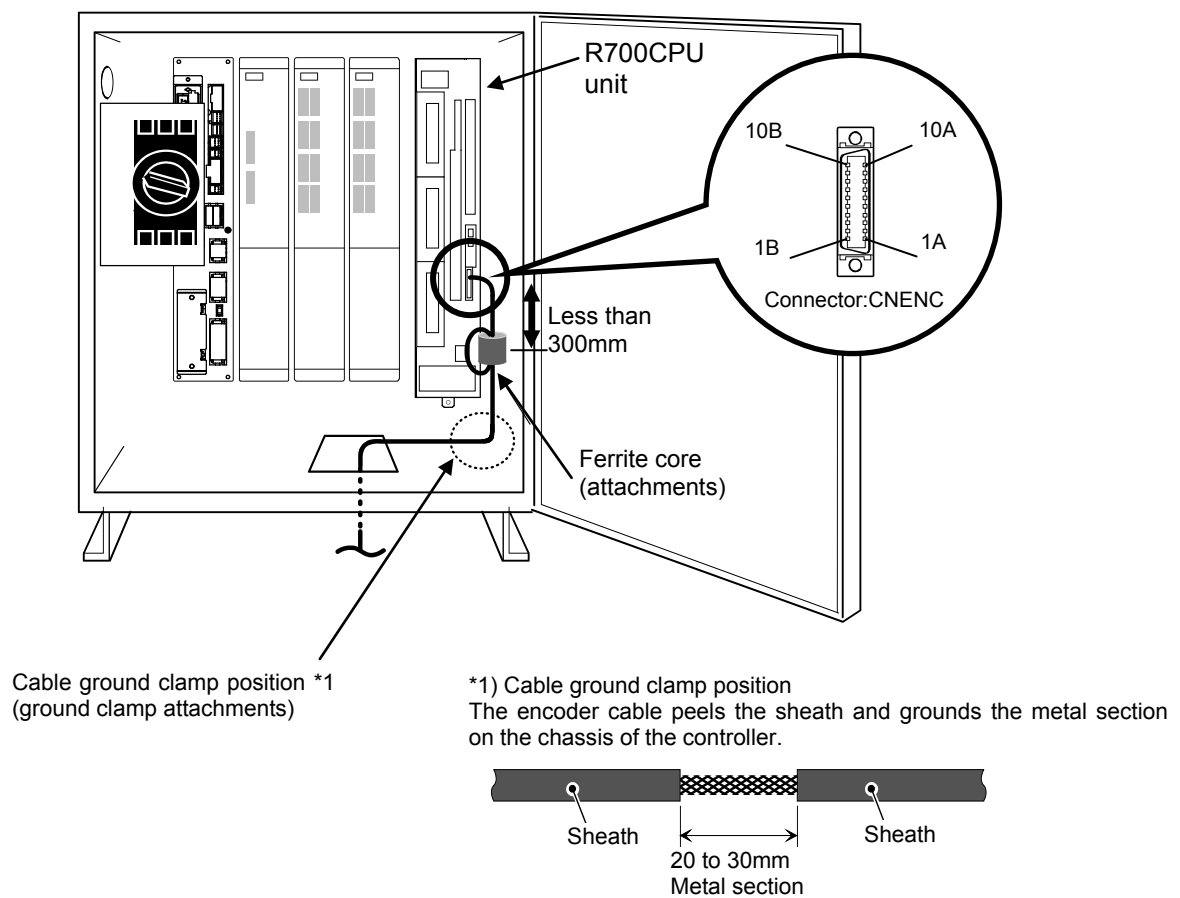

Figure 10-10 Installation of encoder cable (CR3D-700 series)
*CR3D-700 series: "Figure 10-10 Installation of encoder cable (CR3D-700 series) "